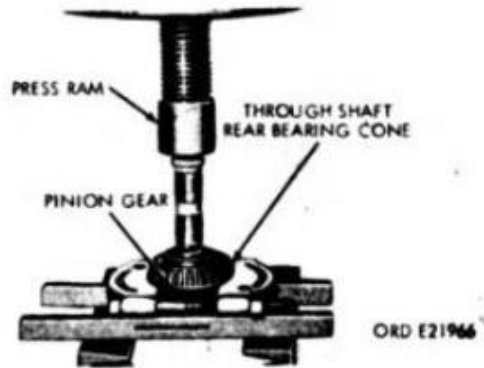

Figure 84. Removal of rear bearing cone from pinion gear
c. Removal of Rear Bearing Cone from Pinion Gear (Fig. 84).
- (1) Set up press the same as in a(1) above.
- (2) Install an adapter puller around the pinion gear and place the rear bearing cone and pinion gear between the two iron spacers on the press bed and press rear bearing from the pinion gear assembly.